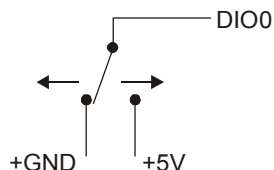

Figure 11. Schematic showing switch detection by digital channel DIO0
When you configure the digital bits for input, you can use the 18200-30 digital I/O terminals to detect the state of any TTL-level input. Refer to the schematic shown in Figure 11. If you set the switch to the +5V input, DIO0 reads *TRUE* (1). If you move the switch to GND, DIO0 reads *FALSE* (0).